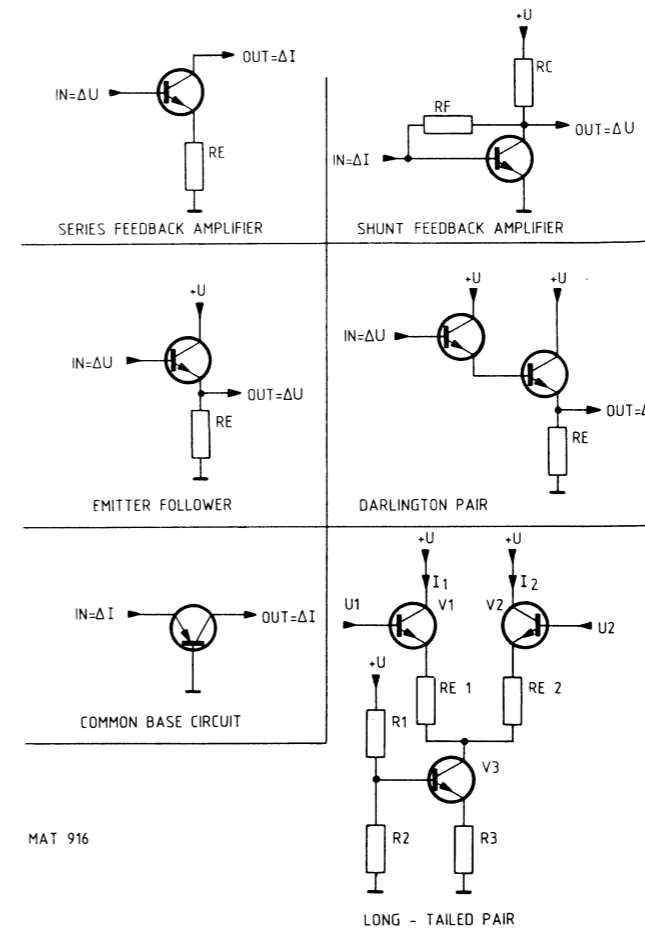

Fig. 2.12 Basic analog circuits
2.6.1. Basic Analog Circuits (see Fig. 2.12)
In the diagram of Fig. 2.12, the long-tailed pair is formed by transistors V1 and V2. Transistor V3 functions as a constant-current source for V1 and V2. The current drawn from V3 is divided between V1 and V2, the proportion depending on the base voltages applied (U1 and U2).